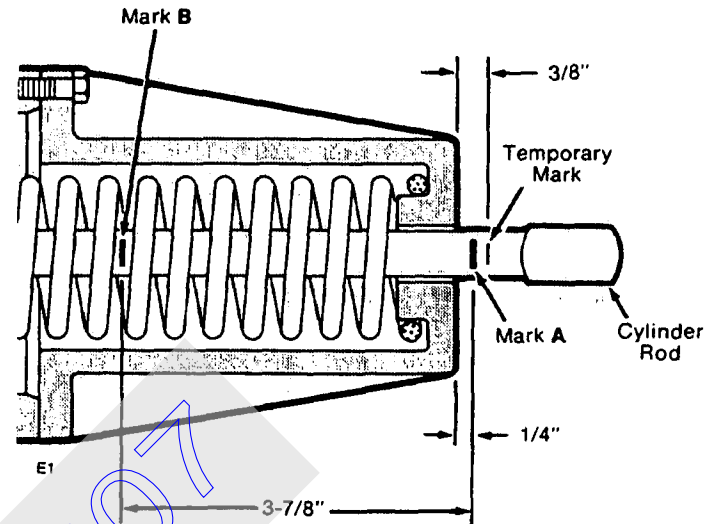

Figure 1. Cylinder Rod Marking
3. Extend the cylinder rod so the temporary mark is 3/8 inch from the end of the cylinder as shown in Figure 1.
4. Then mark the cylinder rod 1/4 inch from the end of the cylinder with a file or hacksaw blade (see Mark A, Figure 1).
5. Fully extend the cylinder rod. Then make a second mark on the cylinder rod 3-7/8 inches down from Mark A (see Mark B, Figure 1).